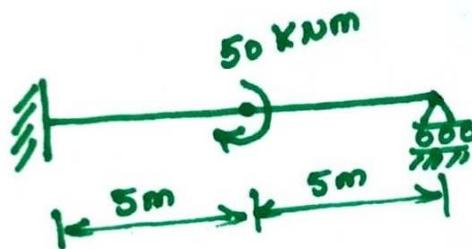

Figure.2
4. A Beam of length 10 m as shown in the figure.2 is subjected to a moment of 50000 Nm (Clockwise) at the midpoint. Assuming two elements, evaluate the displacement. Take  $E = 200 \text{ GPa}$ , The left half of the beam is of rectangular cross section of width 300 mm and depth 200 mm. The moment of inertia of right half of the beam is twice that of left side. [14]